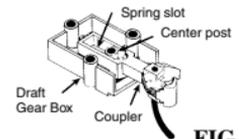

FIG. 3
2. Place coupler into Draft Gear Box, as shown in Fig.3. Add a little more "231 Greas-em" and "toggle" coupler back and forth in box to burnish further.